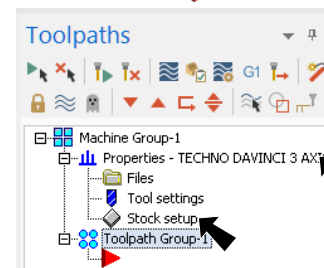

Fig. 1
- Step 4. If Machine Group is **not** displayed in the Toolpaths Manager, **Fig. 1**, on the Machine tab , click Machine  >
- Step 5. Expand **Properties** (click +) in the Toolpaths Manager, **Fig. 1**.
- Step 6. Click **Stock Setup** in the Toolpaths Manager, **Fig. 1**.